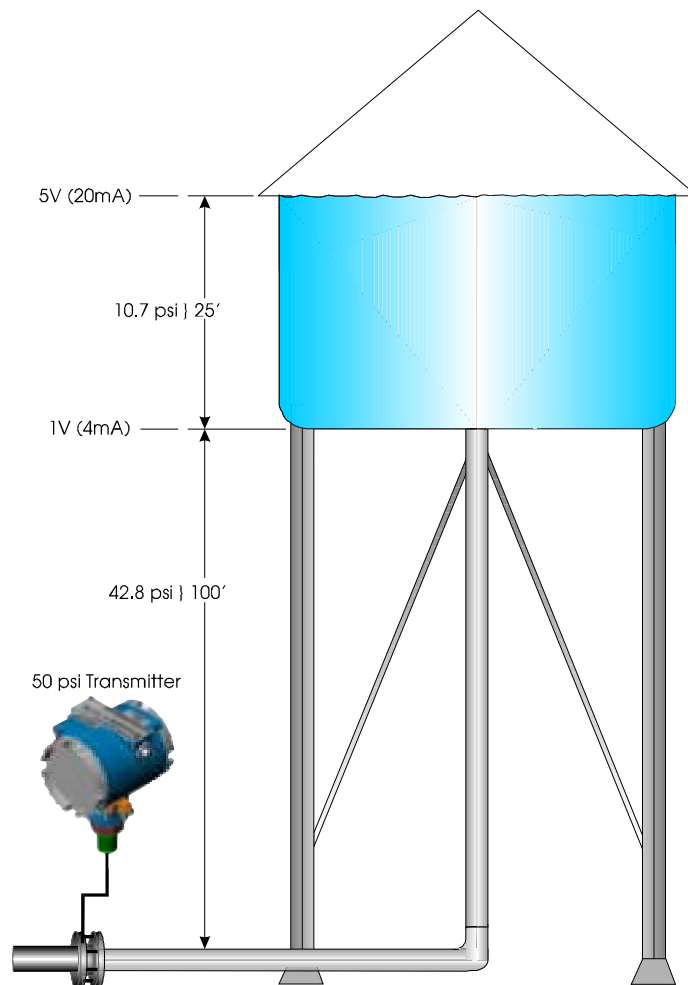

Figure 3-3 - Water Tower Level Measurement - Zero Suppression
3.8.1 Zero Suppression Example (see Figure 3-3 & Table 3-B)
The full water tower of Figure 3-3, produces 53.5 psi of pressure due to the 125 foot head, i.e 10.7 psi plus 42.8 psi. To determine the Coarse Span Rotary Switch (SW1) setting, divide the pressure produced by the 25 feet of water in the tank by the Transmitter's range; in this case 50 psi, i.e., $10.7/50 = 21.4\%$. Therefore, the SW1 should be set to position 8 (18.5% - 23%).